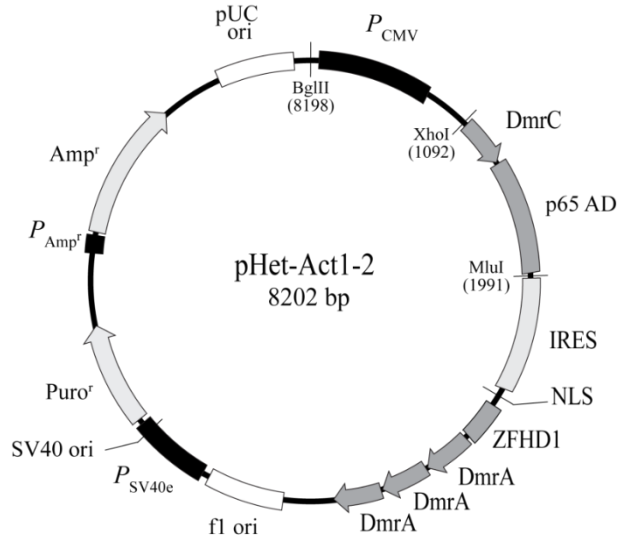

Figure 2. pHet-Act1-2 vector map.
- pHet-Act1-2 (Figure 2) encodes both the transcription factor activation domain and the DNA-binding domain. The activation domain is fused to a single DmrC domain, and the DNA-binding domain is fused to multiple DmrA dimerization domains. When DmrC and DmrA bind the A/C Heterodimerizer, they form heterodimers that reconstitute the functional transcription factor (Figure 1, bottom right). The nuclear localization signal on the DNA-binding domain causes the newly formed complex between the DNA-binding domain and the transcription factor activation domain to enter the nucleus, inducing expression of the target gene cloned into the pZFDH1-2 vector. This vector contains a puromycin resistance cassette.